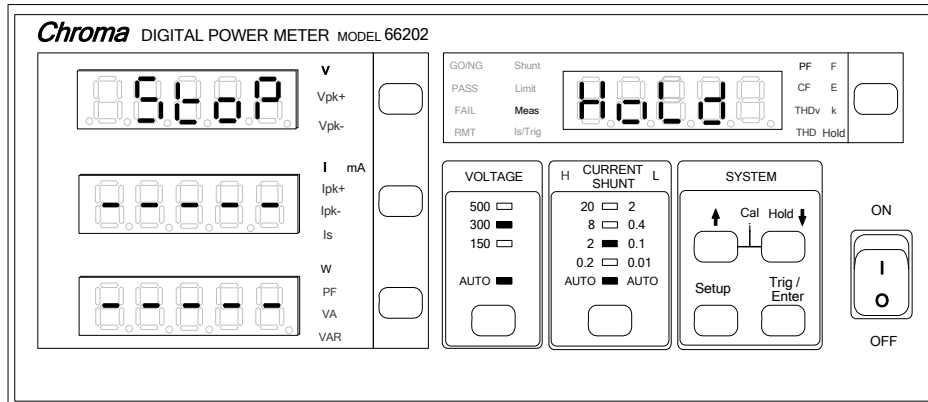
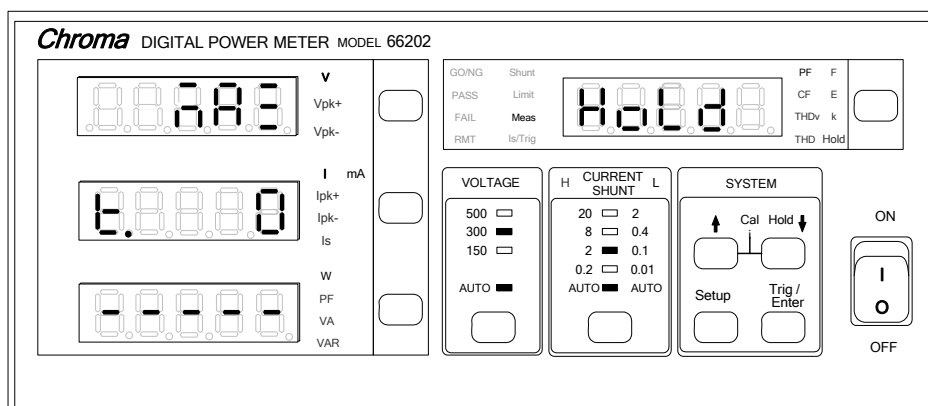
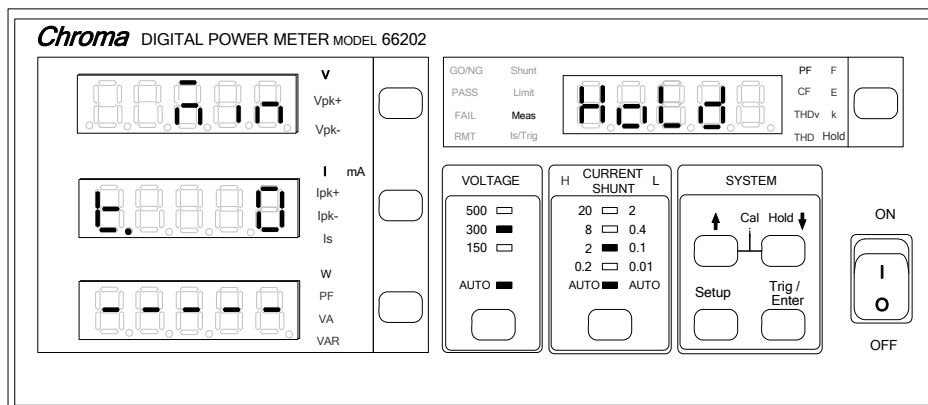
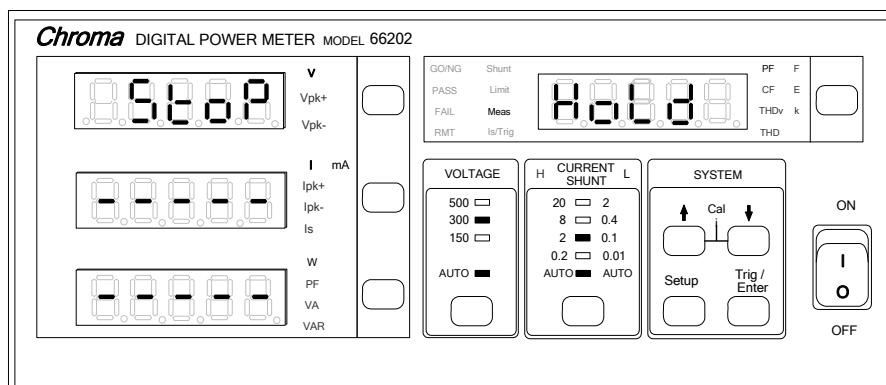

Figure 4-26 Setting Stop in HOLD
Figure 4-27 Setting Max in HOLD
Figure 4-28 Setting Min in HOLD
Figure 4-29 Old Setting Panel of Stop for HOLD
3. Use **↑**, **↓** to select Stop, Max or Min as shown in Figure 4-26, Figure 4-27 and Figure 4-28. Press **Enter/Trig** to save the settings and go to the settings of Hold time (there is no time settings if Stop is selected.)
The HOLD function in **66201/66202** Power Meter is only supported when the firmware version is ≥ 1.20 . HOLD is a new function and since the display panel has old and new versions, the old version as Figure 4-29 shows has no HOLD indicator while the new version has it as shown in Figure 4-26. The HOLD is located at  key.